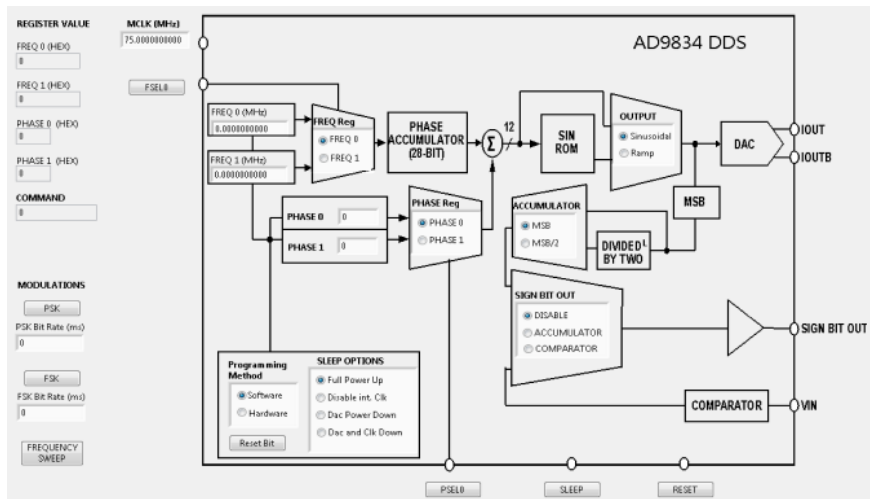

Figure 4. EVAL-CN0304-SDZ Evaluation Board Software
3. Ensure that all links are in their correct locations (see Table 1). The main window of the EVAL-CN0304-SDZ evaluation software then opens, as shown in Figure 4.